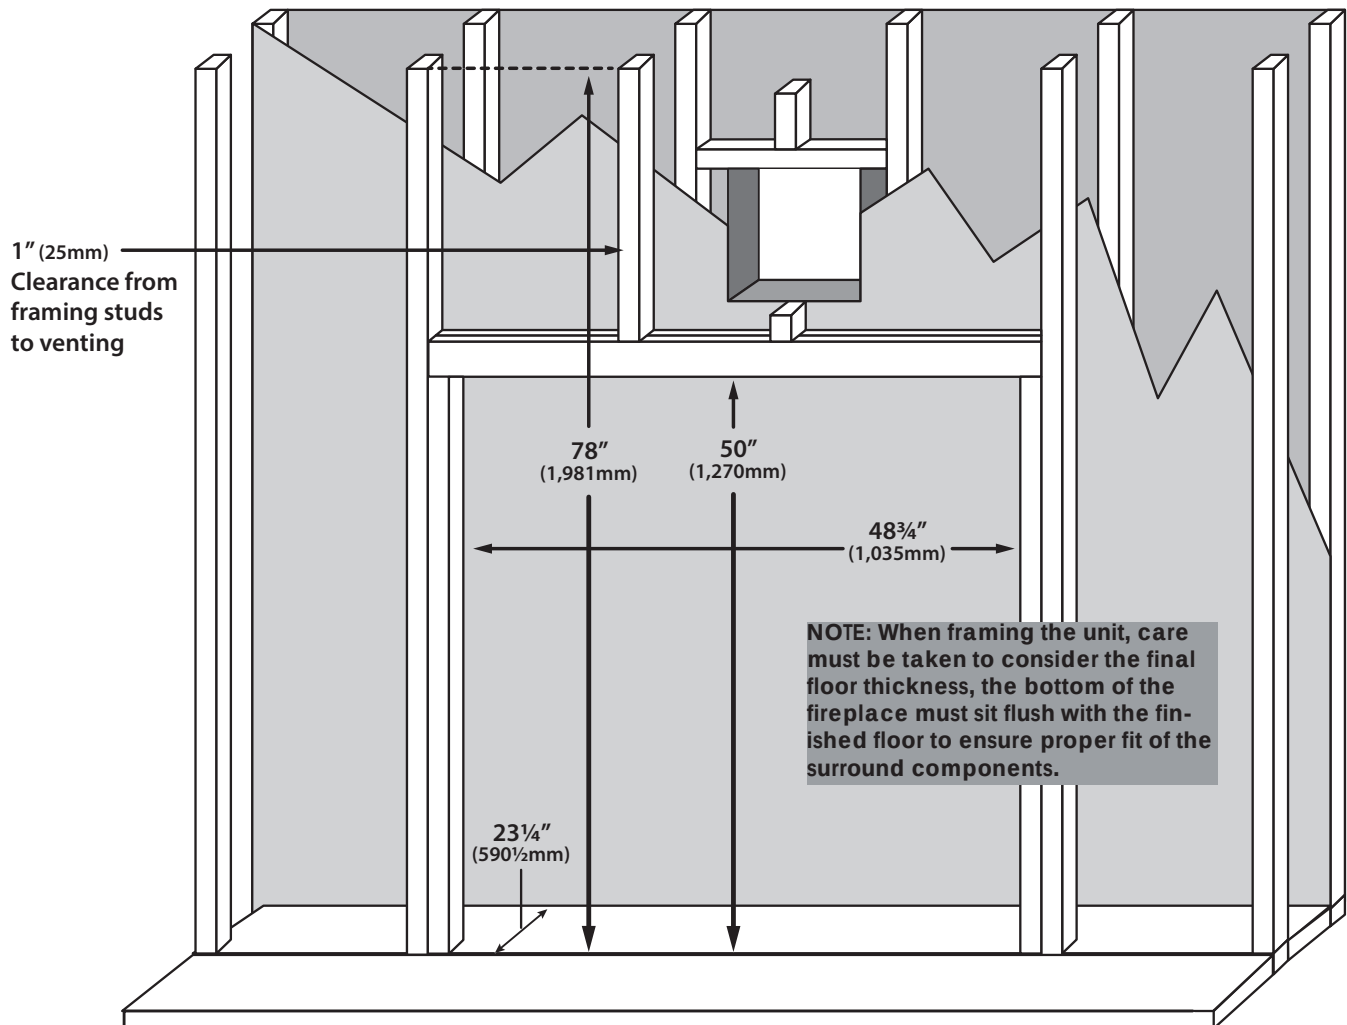
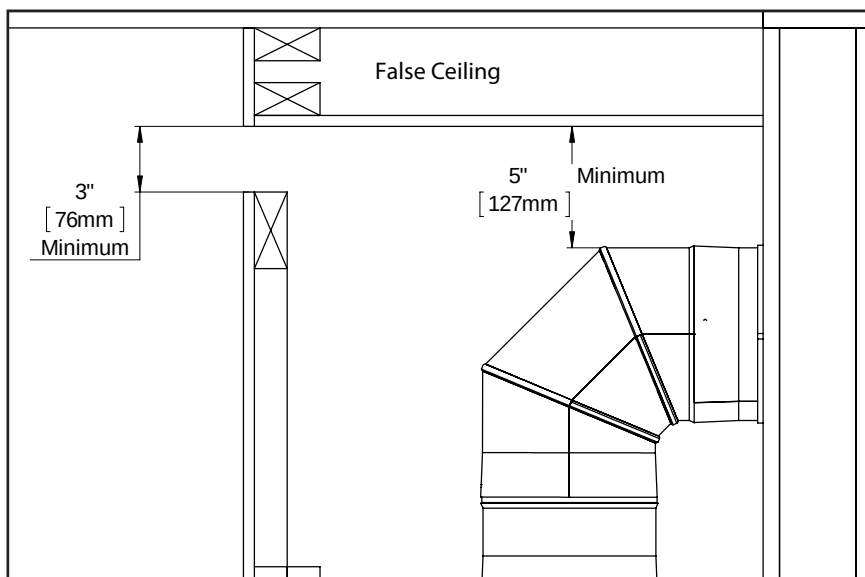

Figure 42: G42 Minimum Framing
Figure 55: False Ceiling
The location for the fireplace can be raised, at floor level, or installed in a corner. There are minimum framing measurements for each situation. The basic rough opening should have the following dimensions (see Figure 42). The fireplace must be placed on a strong and level surface.
**Optional: False Ceiling** - If your ceiling dimension is greater than the minimum (See figure 42) You may want the CSS Air discharge lower on the wall. To do this a false ceiling is required to properly evacuate the heat from the chase. (See Figure 55).